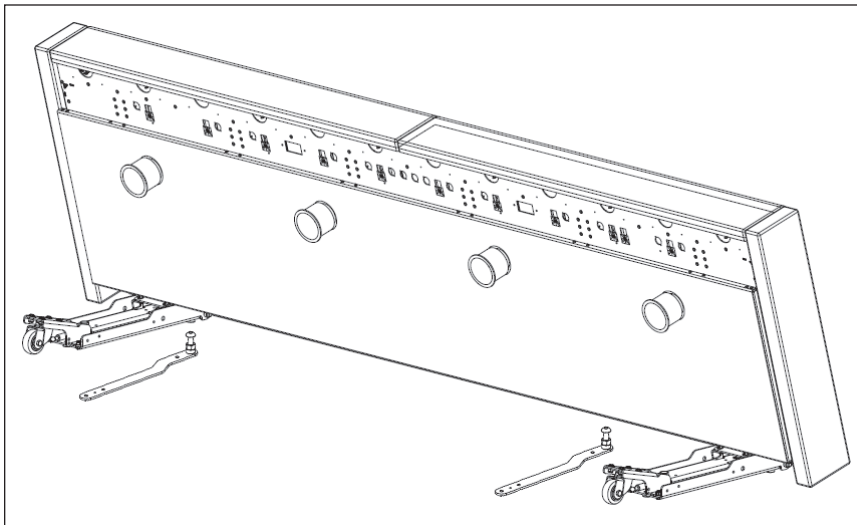

Figure 21: Both Caster Bases Resting on Floor
4. Move to the left side caster base and repeat **Steps 2-3**. The table should now be resting on the floor. Refer to **Figure 21**.
4. Tilt the display face forward just far enough to **remove the Caster Base Tool** from the top of each caster base pivot arm. Set the Caster Base Tools aside, and carefully let the display face tilt all the way backward. Adjust cup holders as needed to ensure the tabletop can be pushed flush against the display cabinet. Refer to **Figure 21**.